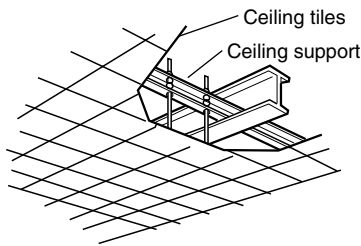

Fig. 3-59
- Use existing ceiling supports or construct a suitable support (Fig. 3-59).